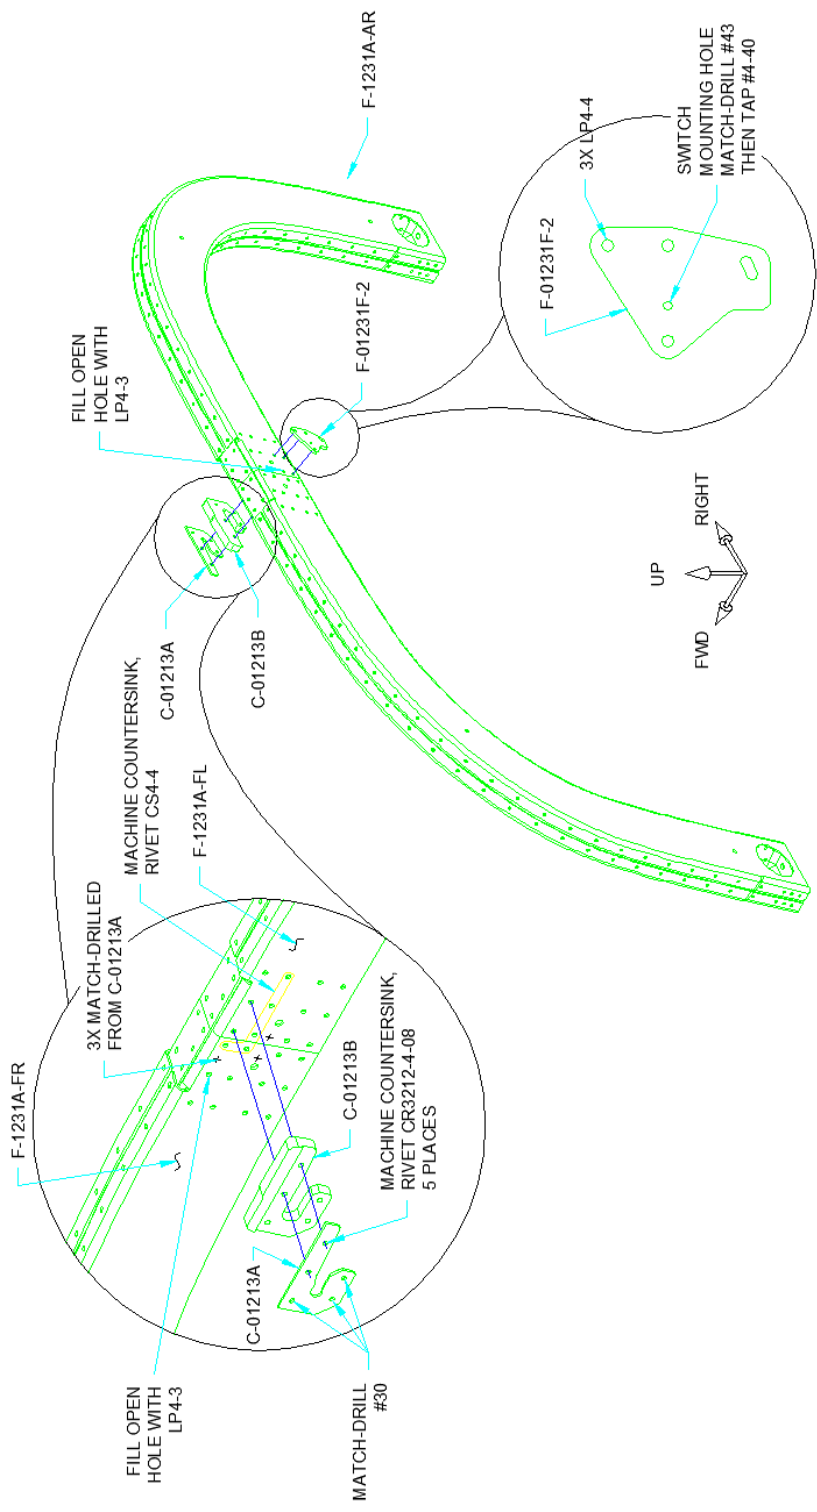

FIGURE 5: ROLL BAR UPDATE
Step 6: Machine countersink C-01213A for the heads of the rivets called out in the detail view in Figure 5.
Step 7: Remove the previously installed rivets and then machine countersink the five holes on the forward face of the Roll Bar Assembly indicated in the detailed view of Figure 5.
Step 8: Cleco the F-01231F-2 to the Roll Bar Assembly. Match-Drill #43 the switch mounting hole of the F-01231F-2 into the Roll Bar Assembly. See the detail view in Figure 5.
Step 10: Rivet C-01213A and C-01213B to the Roll Bar Assembly. See Figure 5.
Step 11: Fill the open holes on the front and back sides of the roll bar frame as called out in Figure 5.